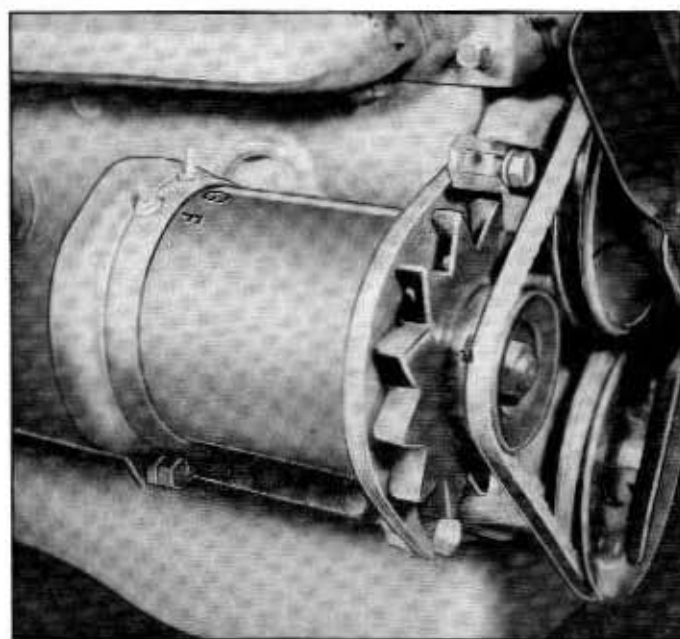

Fig. 9-7—Generator Mounting—(60C-7666)
2. Remove the adjustment arm to generator bolt. Remove the two pivot bolts from the mounting bracket from underneath the car. Remove the generator and belt. See figure 9-7.